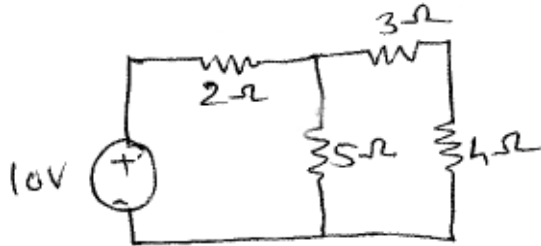

Fig.2c
- c) Find the current through $5\ \Omega$ resistance using mesh analysis (fig. 2c). 4